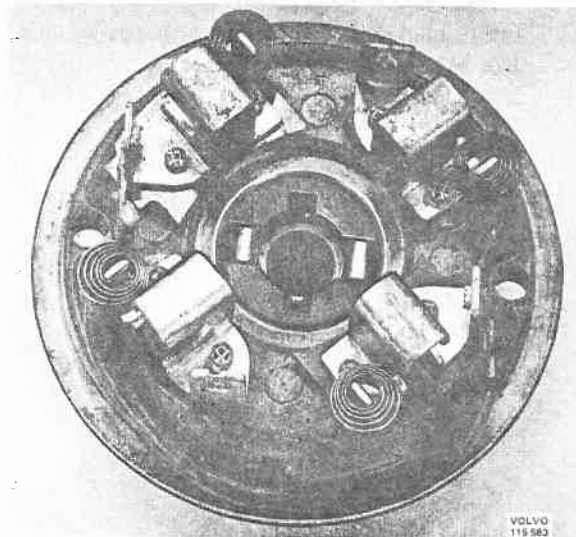

Fig. 33-28. Armature brake
1. Fit the armature brake on the commutator end bearing shield and the cable between the positive brushes, Fig. 33-28.